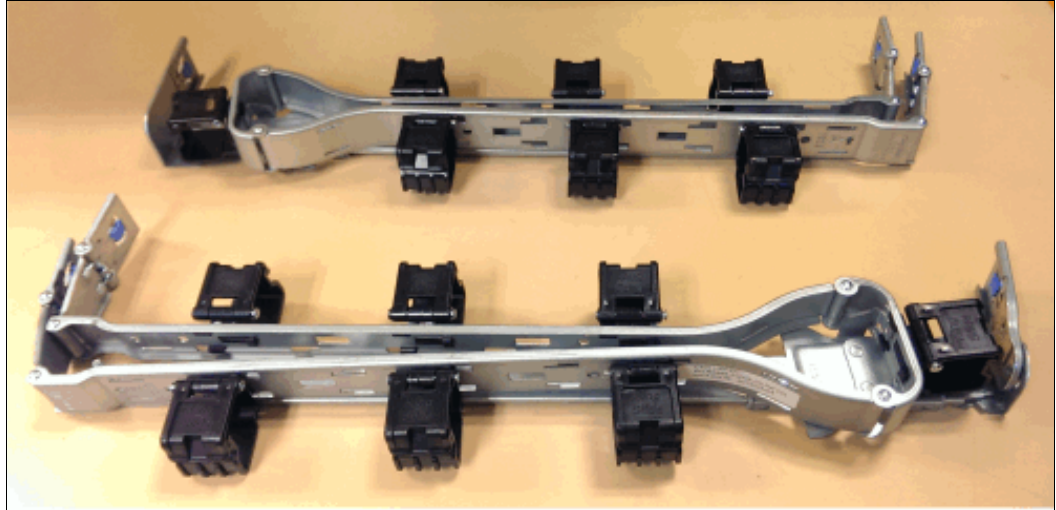

Figure 6-22 Model A9F expansion enclosure cable arm assemblies
9. Install the cable management arms (CMA). The cable management arms consist of an upper arm and a lower arm assembly, as shown in Figure 6-22 on page 183.